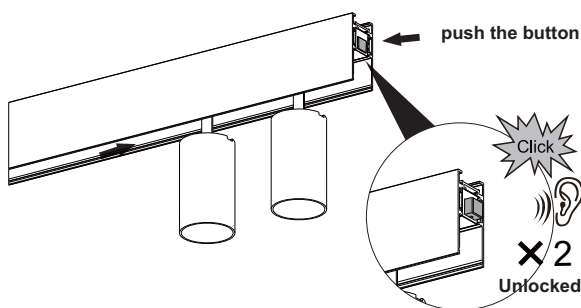

Figure 23
3. To install a light module insert, push the button from both ends of the fixture unit to make a click sound (Figure 23).